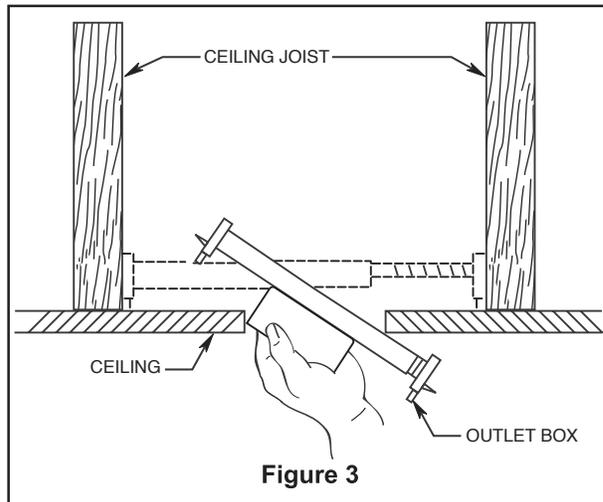
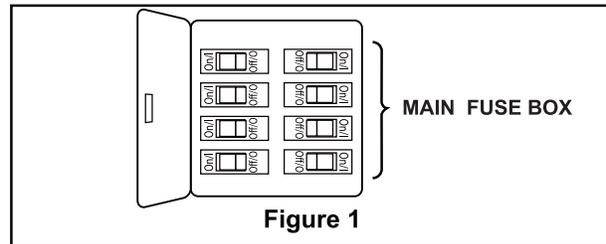
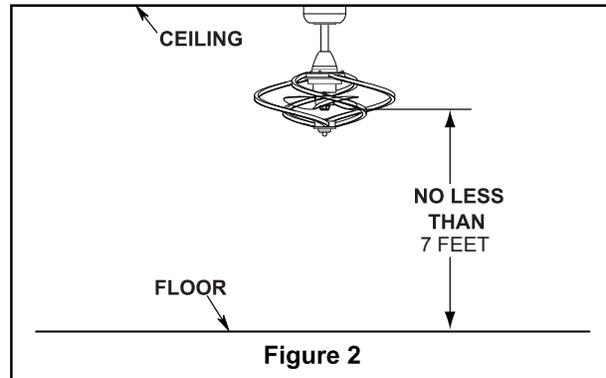

Figure 3
Figure 1
Figure 2
Your new ceiling fan will require a grounded electrical supply line of 120 volts AC, 60 Hz, 15 Amp Circuit. Electrical code requires use of a fan-rated outlet box to support the extra weight and motion associated with a ceiling fan. A fan-rated box will be labeled as such and typically supports up to a 70lbs ceiling fan. Fan-Rated Outlet Boxes vary in ratings and design. Ensure the ratings of your ceiling fan outlet box meet the requirements for the ceiling fan being installed. Figure 1, Figure 2 and Figure 3 depicts different structural configurations that may be used for mounting the outlet box.
## Low-profile use (Figure 1)
## Deep-profile use (Figure 2)
## Brace Use (Figure 3):
Loosen the set screw in the hanger ball assembly until the hanger ball slides off the downrod. Remove the pin from the downrod, then remove the hanger ball. Retain the pin and hanger ball for reinstallation in Step 6. (Figure 1)
- Remove the hairpin clip and clevis pin from the bottom of the downrod. Keep the pin and clip for reinstallation in Step 4. (Figure 2)
It could cause fire or electric shock. Ensure that you turn off the power at the main fuse box before installation. (Figure 1)
Ensure the fan is hung with at least 7 feet of clearance from the floor to the ceiling fan. (Figure 2)
To avoid possible electrical shock, be sure Turn off the power at the main fuse box before wiring. (Figure 1)
- 1. Slide the receiver into the hanger bracket with the flat side up towards the ceiling, as shown in figure 2.
- (Figure 1)
- After all connections have been made, carefully push the connected wires into the outlet box. Ensure that the white and green (ground) wires are positioned on one side of the box and the black (hot) wire is positioned on the opposite side, as shown in Figure 1
- 3. Tighten the first shoulder screw, then attach and secure the second shoulder screw. (See Figure 1)
- 2. Use the twist - lock mechanism to secure the screw cover in place. (See Figure 2)
- ❑ **IMPORTANT:** Do not use a full - range dimmer switch to control fan speed. This may damage the fan or cause fire/electrical shock. (See Figure 1)
- ❑ Restore electrical power to the outlet box by turning the electricity on at the main fuse box. (Figure 2)